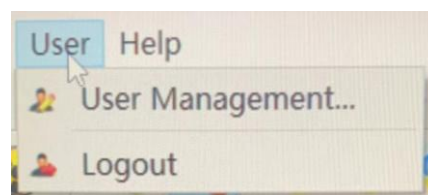

Fig. V-95 Logout Entry
Click "User (U)" ->"Log off" (Fig. V-95) in the menu bar to log off the current user (without exiting the program) and directly switch to other user login.